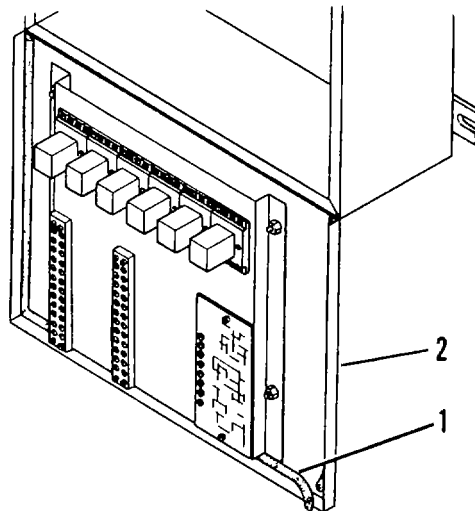

Figure 4-7. Junction Box Gasket Replacement.
- (1) Removal:
- (a) Pull old gasket material (1, Figure 4-7) from junction box cover (2).
- (b) Thoroughly clean all traces of old adhesive from junction box cover (2) with cleaning solvent.